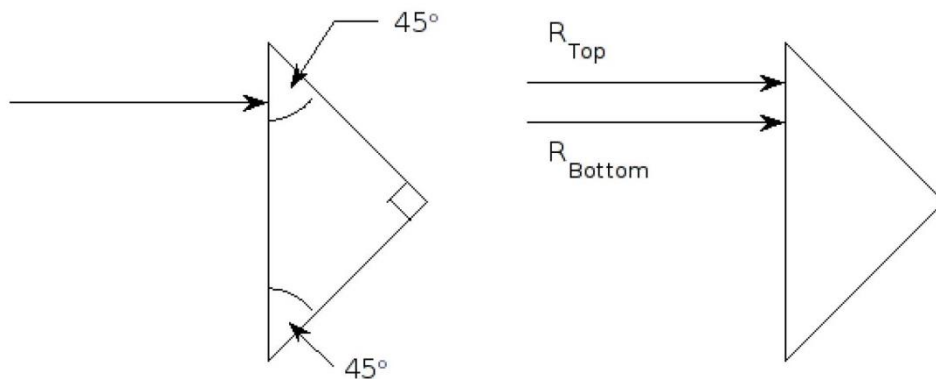

Figure 6.7. Light incident on a 90-45-45 degree prism.
*Calculation:* Compute the critical angle for BK-7 optical glass, which has a refractive index of 1.515 at 635 nm. If light is incident on a 90-45-45 BK-7 glass prism as shown in Figure 6.7, what will happen to it?
*Question:* If we have two parallel rays  $R_{TOP}$  and  $R_{BOTTOM}$  incident on the prism as shown in Figure 6.7, what will be the relative position of the two rays when they leave the prism? What useful thing could you do with two such prisms? (Such a device is used in binoculars.)
*Observation:* You should have two 90-45-45 prisms made of BK-7 optical glass. Hold one of them so that the 90 degree corner is opposite your eye (*i.e.* look at it in the direction of the arrows in Figure 6.7.) Tilt the prism slightly from side to side. Describe briefly what you observe. Give an explanation for your observations.